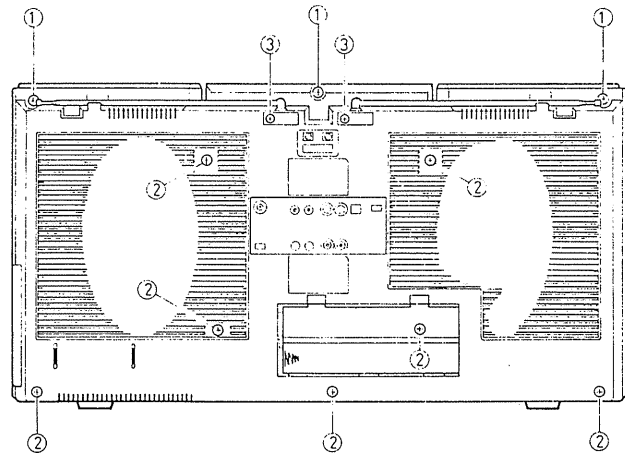

Fig. 5
A. Rear cabinet and rod antennas (Fig. 5)
2. Remove 3 screws ① – SBSF4018R.
3. Remove 7 special screws ② – VKZ4008-002.